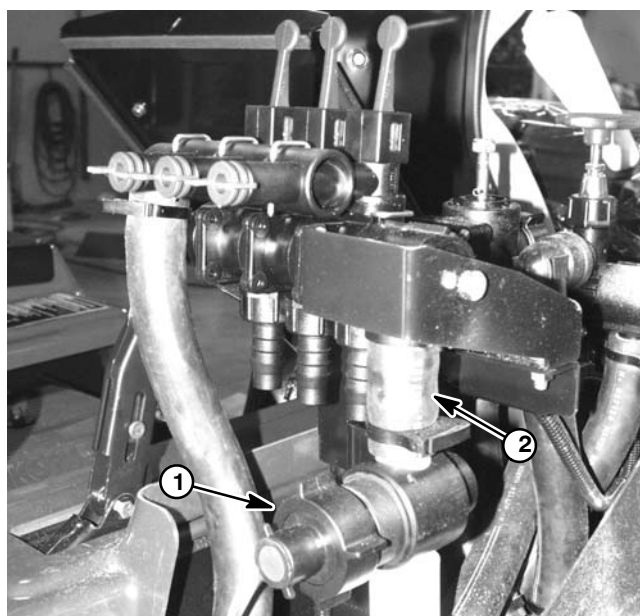

Figure 25
3. Loosen and remove nut that secures flow sensor to housing (Fig. 25). Carefully remove flow sensor from flowmeter housing.